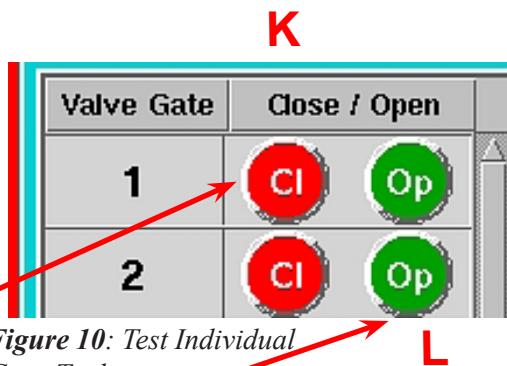

Figure 10: Test Individual GatesTool
- K. **Close one valve at a time.** You can also test individual gates from the Valve Gate Tool by clicking on the Setup button in the row for that specific gate. See figure 10.
- L. **Open one valve at a time.** You can also test individual gates from the Valve Gate Tool by clicking on the Setup button in the row for that specific gate. See figure 10.